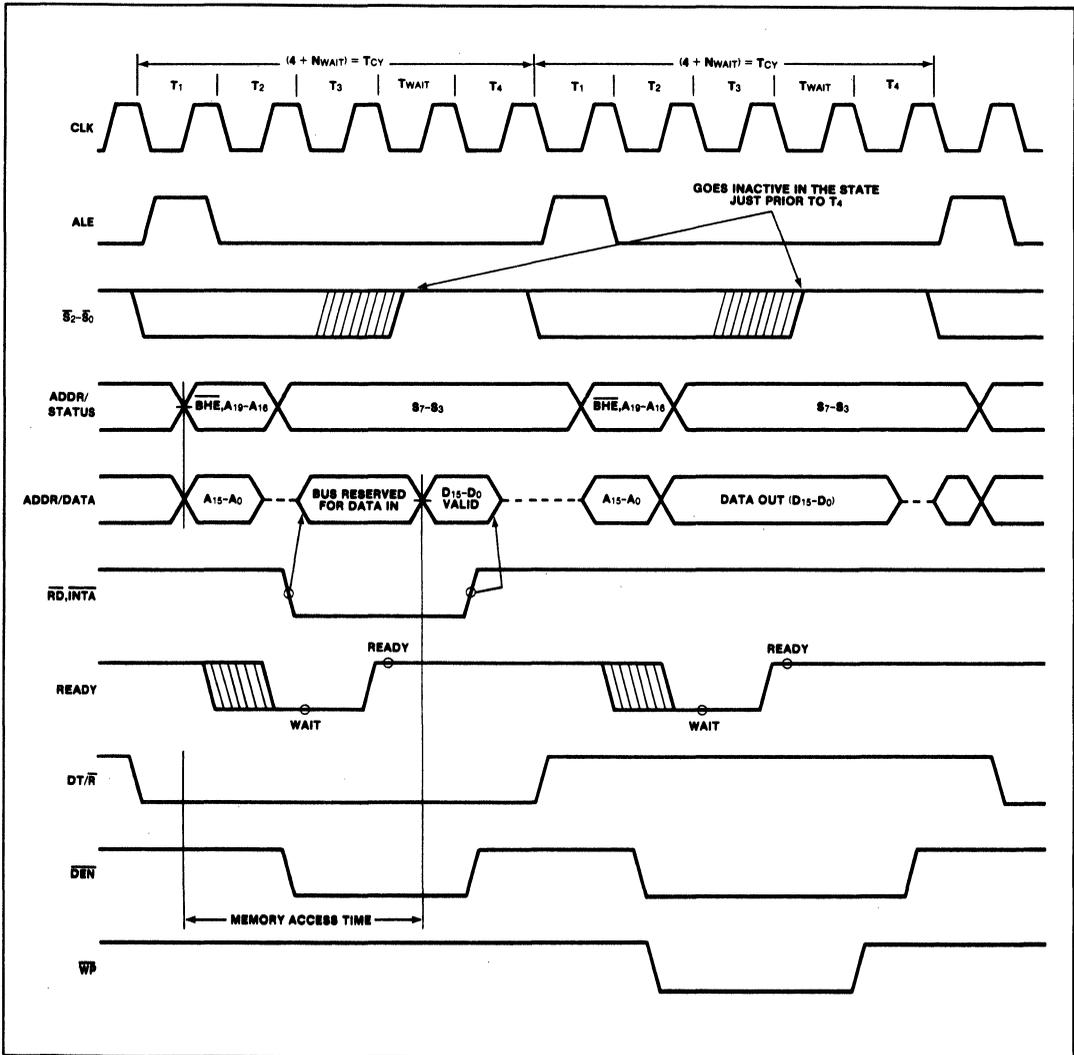
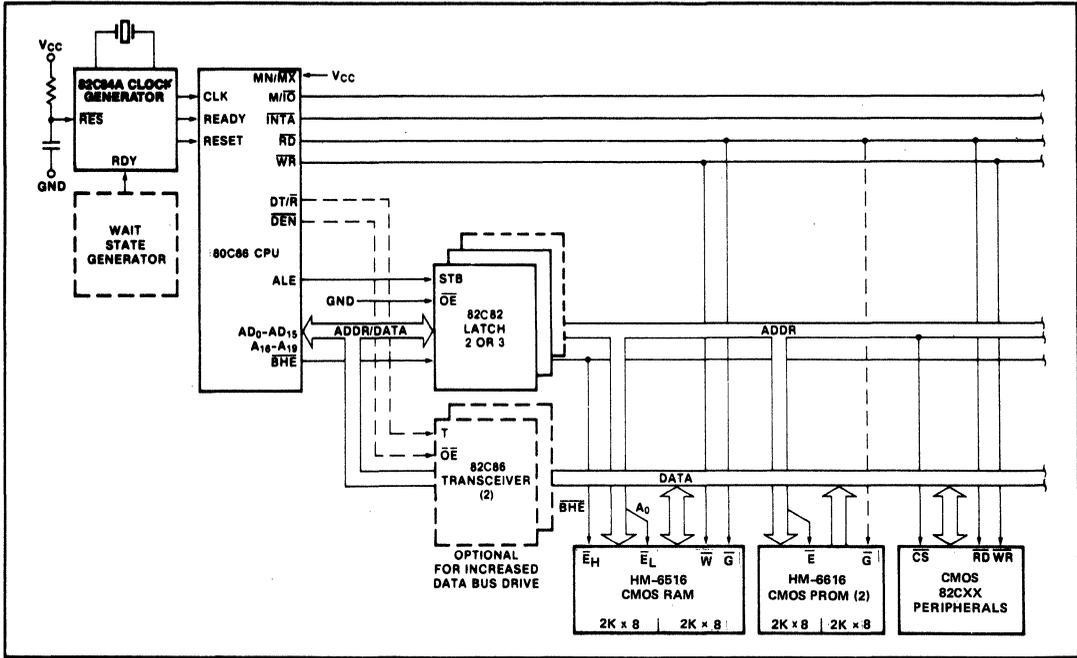

Figure 3. Basic System Timing
Figure 5a. Minimum Mode 80C86 Typical Configuration
Each processor bus cycle consists of at least four CLK cycles. These are referred to as T1, T2, T3 and T4 (see Figure 3). The address is emitted from the processor during T1 and data transfer occurs on the bus during T3 and T4. T2 is used primarily for changing the direction of the bus during read operations. In the event that a "NOT READY" indication is given by the addressed device, "Wait" states (TW) are inserted between T3 and T4. Each inserted "Wait" state is of the same duration as a CLK cycle. Periods between 80C86 bus cycles are referred to as "idle" states (T1) or inactive CLK cycles. The processor uses these cycles for internal housekeeping and processing.
Typical system configurations for the processor operating in minimum mode and in maximum mode are shown in Figures 5a and 5b, respectively. In minimum mode, the  $\overline{\text{MN}}/\overline{\text{MX}}$  pin is strapped to VCC and the processor emits bus control signals (e.g.  $\overline{\text{RD}}$ ,  $\overline{\text{WR}}$ , etc.) directly. In maximum mode, the  $\overline{\text{MN}}/\overline{\text{MX}}$  pin is strapped to GND and the processor emits coded status information which the 82C88 bus controller used to generate MULTIBUS® compatible bus control signals. Figure 3 shows the signal timing relationships.